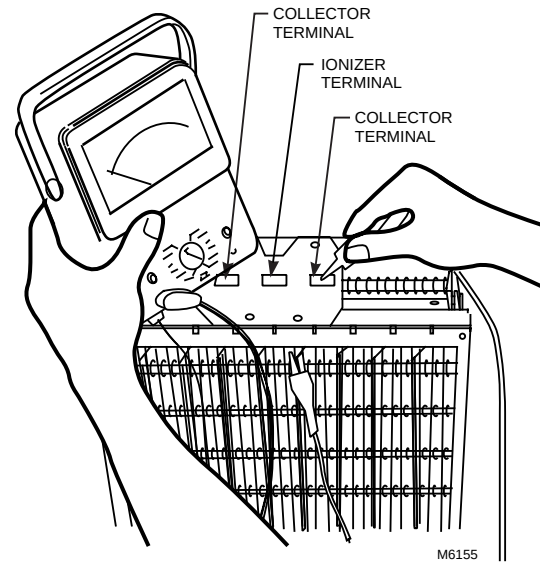

Fig. 15. Use ohmmeter to check electronic cells for short circuits.
3. Check the cell for short circuits using an ohmmeter; see Fig. 15. Check the resistance between the frame of the cell and both the ionizer and the collector contacts. In each case, the resistance should be infinite.